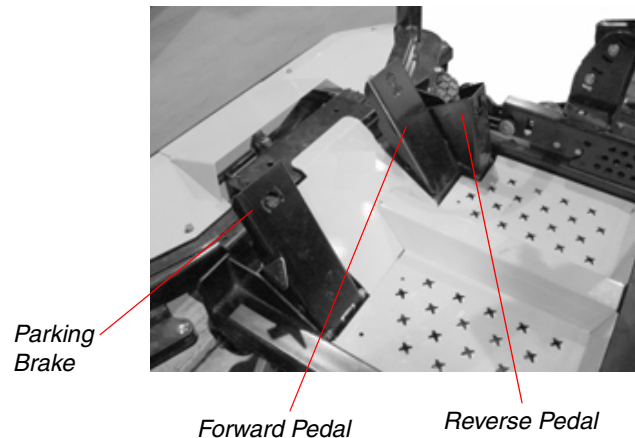

Figure. 6
3. **Speed Control Pedals:** (See Figure 6.) The pedals control all of the speed and direction movements of the mower. Pushing the forward pedal causes the mower to move forward. Pushing the reverse pedal causes the mower to move backward.
5. **Parking Brake:** (See Figure 6.) Located on the left side of the traction unit. The Park brake pedal applies the drum-type brake on each of the drive wheels when the pedal is pushed. The park brake must be engaged in order to start the engine. To engage, push the latch on the side of the pedal and the pedal downward until it latches. To release, push the pedal downward (not the latch) and release.